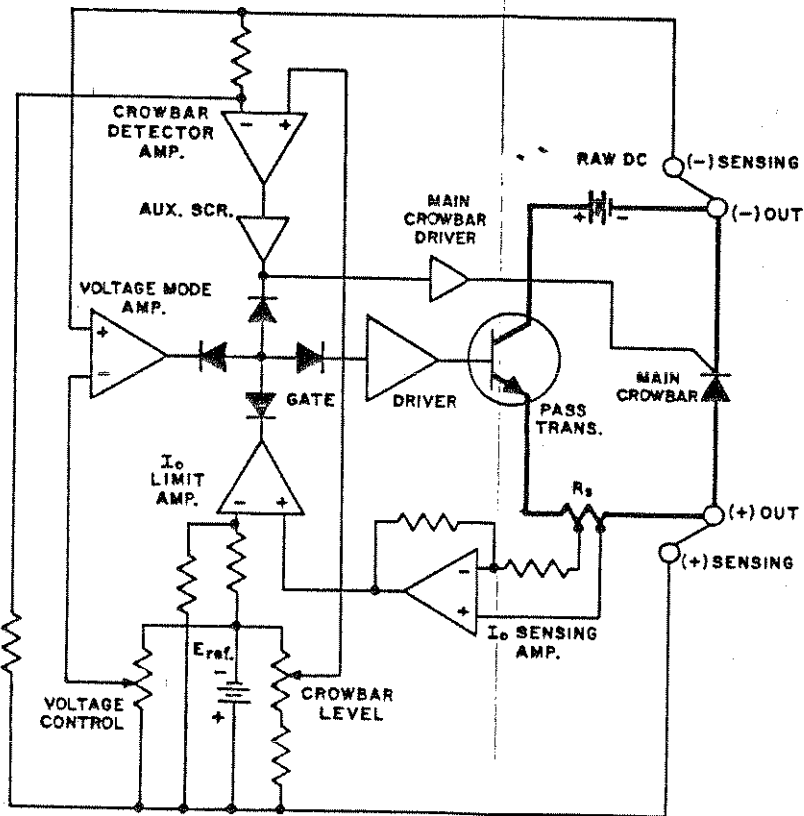

FIG. 4-2 SIMPLIFIED SCHEMATIC DIAGRAM, 6V-5A SUPPLY
- 4-2 (6V, 5A SUPPLY, SEE FIG. 4-2). This is a 0 to 6V, 5A stabilized power supply with error-sensing, fixed current limiting and adjustable crowbar level. As seen from FIG. 4-2, the RAW D-C SOURCE is connected in series with the PASS TRANSISTOR, the current sensing resistor (R_g) and the external load across the (\pm) OUT terminals. The PASS TRANSISTOR changes its collector/emitter potential in response to the control signal received from the DRIVER stage, which in turn is controlled by a signal from the VOLTAGE MODE AMPLIFIER, the I_O LIMIT AMPLIFIER or the CROWBAR DETECTOR.